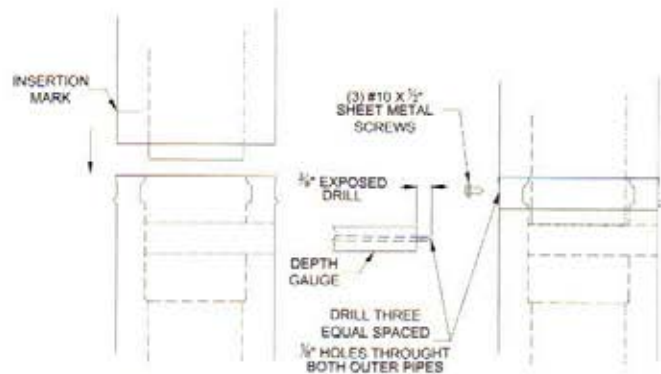
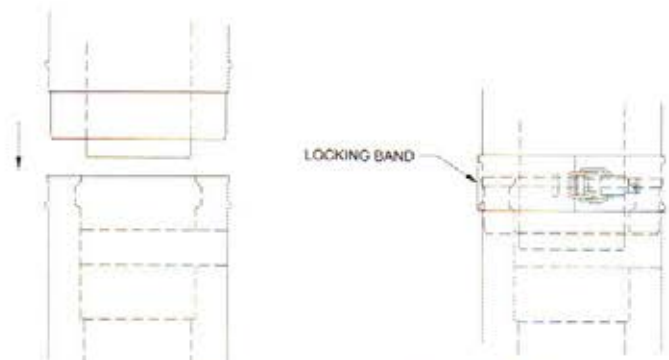

Figure 21: Joining Cuttable Pipe
Figure 22: Joining Non-Cuttable Pipe
- e. To join Concentric Vent Pipe refer to Figure 21 "Joining Cuttable Pipe" and Figure 22 "Joining Non-Cuttable Pipe" and follow the procedure below:
- ii. Push the male end of the first fitting into the boiler collar until it bottoms out. The male end of cuttable sections should go 1" into the collar until the insertion mark (made in Step 4 above) is covered. On other fittings, the bead on the male pipe will be bottom out on the collar (see Figure 22).
- iii. The male end of cuttable fittings must be held to the collar with three (3) #10 x 1/2" sheet metal screws. Drill a 1/8" hole through both outer pipes to start this screw. Use a **drill stop or other means to ensure that the drill bit does not penetrate more than 3/8" into the outer pipe. Do not use a sheet metal screw longer than 1/2"** (see Figure 21).
- iv. Use locking bands (provided with all fittings) to secure non-cuttable pipe, as well as fittings, to the boiler collar (see Figure 22).